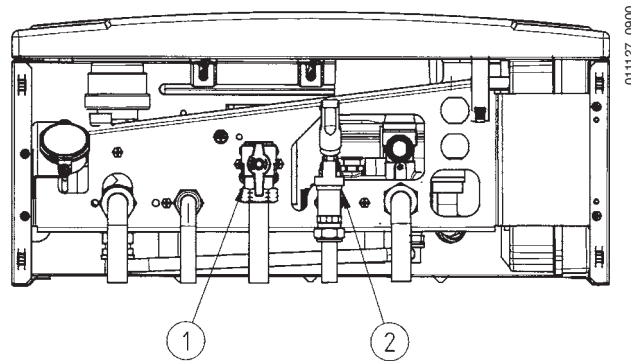

Figure 4
**CAUTION:** *The inlet tap in the boiler (figures 4 and 6) must always stay open to allow the system to be filled automatically. Close it to disable the automatic filling system. The boiler will continue to work as usual.*